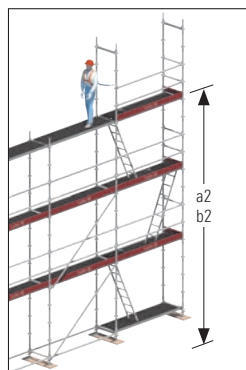

Fig. 13: Attachment at guardrail level
- a2) when attached at guardrail level: at least 6.75 m (Fig. 13)
- b2) when attached at guardrail level: at least 6.25 m (Fig. 13)